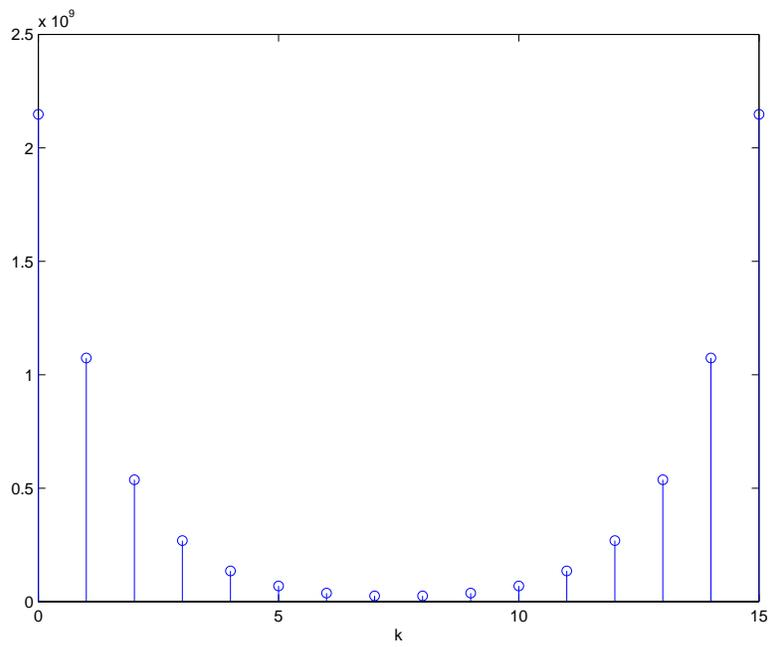

Figure 1: Total quantization error in product as a function of k for the example with $M_x = 11$, $M_y = 13$, $N_x = N_y = N_z = 16$ and $M_z = 9$.
The easiest way to find this minimum is to just plot it in MATLAB for given values of N_x , N_y , and P using the `stem` command. As an example, suppose $M_x = 11$, $M_y = 13$, and $N_x = N_y = N_z = 16$. We know from the previous section that we should set $M_z = 9$ to avoid overflow. This means that we must throw away $P = M_x + M_y - M_z = 15$ fractional bits to avoid overflow. If we plot (19) for $k = 0, \dots, 15$ with the `stem` command in MATLAB, we get the result shown in Figure 1. These results imply that $P_x = 7$ or $P_x = 8$ minimizes the error in the fixed-point product. Hence, either